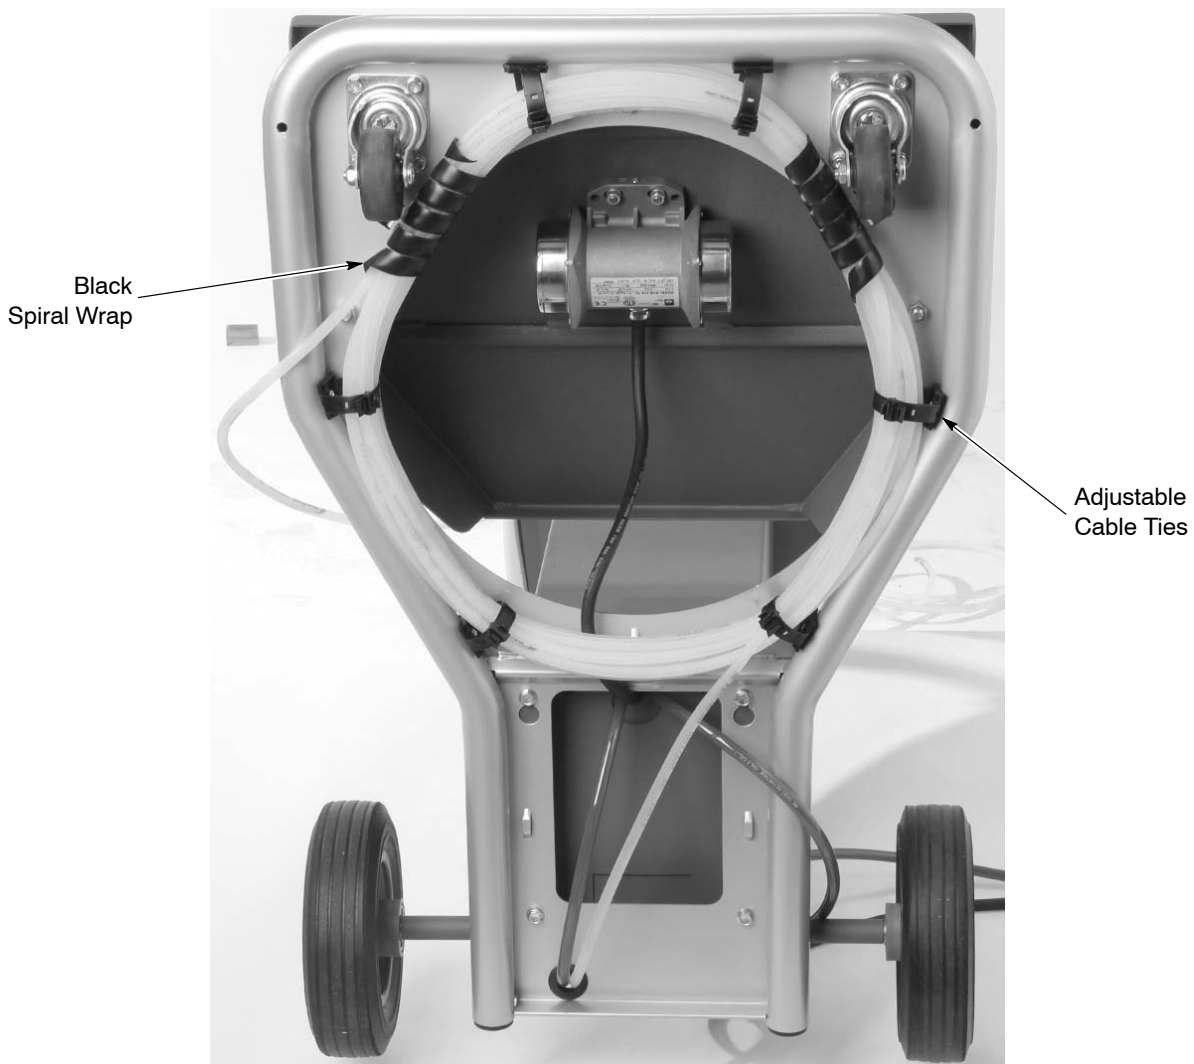

Figure 3-6 Bundling Tubing (Shown with Mobile System)
**NOTE:** See Figure 3-6. The minimum powder hose length is 60 ft.
See Figure 3-6. Use the sections of black spiral wrap supplied with the system to bundle together the spray gun cable, air tubing, and powder hose.